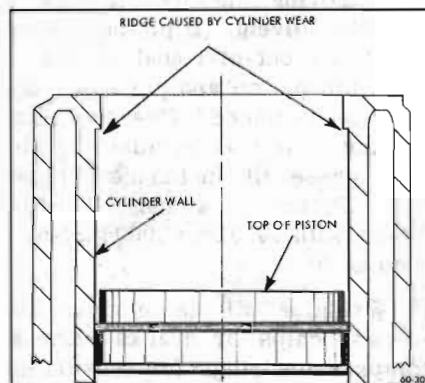

Figure 60-30—Ridges Worn by Ring Travel
2. Examine the cylinder bores above the ring travel. If bores are worn so a shoulder or ridge exists at this point, remove the ridges with a ridge reamer to avoid damaging rings or cracking ring lands in pistons during removal. See Figure 60-30.